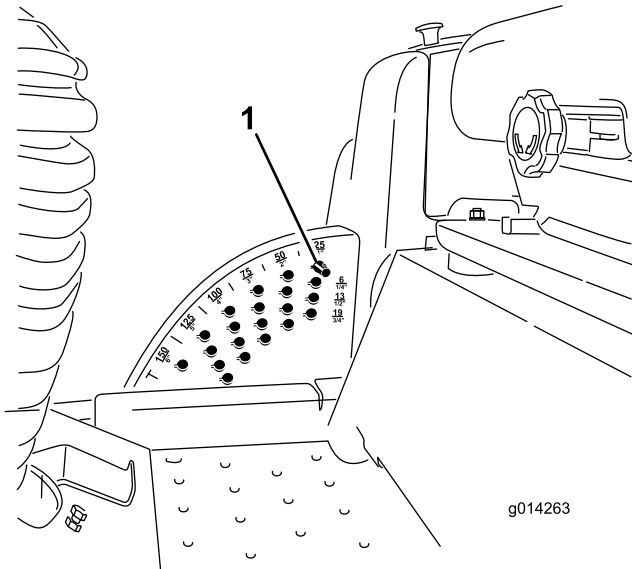

Figure 16
Note: To lock the mower deck/attachment in a raised position, raise the deck past the 15 cm (6 inch) position, remove the height of cut stop pin (refer to Adjusting the Height-of-Cut), and place the pin in the 15 cm (6 inch) height-of-cut position (Figure 16).
1. With the engine running, push back on the deck lift switch until the mower deck is fully raised and **release the switch immediately** (Figure 16).
2. To adjust, rotate the stop pin until the nub on it lines up with the slots in the holes in the height-of-cut bracket and remove it (Figure 16).
3. Select a hole in the height-of-cut bracket corresponding to the height-of-cut desired, insert the pin, and rotate it down to lock it in place (Figure 16).
Note: There are four rows of hole positions (Figure 16). The top row gives you the height of cut listed above the pin. The second row down gives you the height listed plus 6 mm (1/4 inch). The third row down gives you the height listed plus 12 mm (1/2 inch). The bottom row gives you the height listed plus 18 mm (3/4 inch). For the 15.8 cm (6 inch) position there is only one hole, located in the second row. This does not add 6 mm (1/4 inch) to the 15.8 cm (6 inch) position.